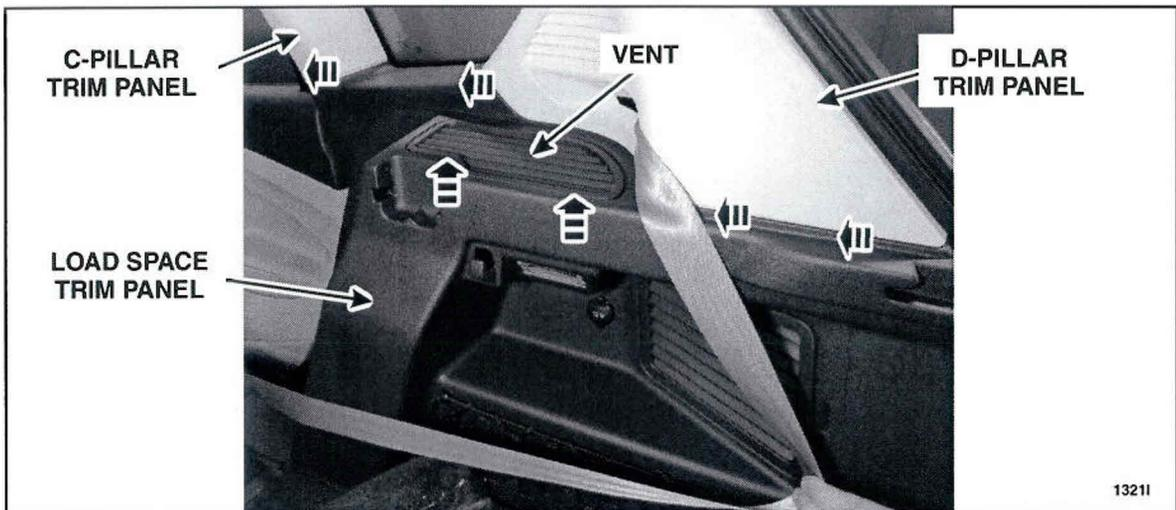

FIGURE 3
5. Position aside the RH and LH load space trim panels. See Figure 3.
31. Position back the RH and LH load space trim panels. Refer to Figure 3.